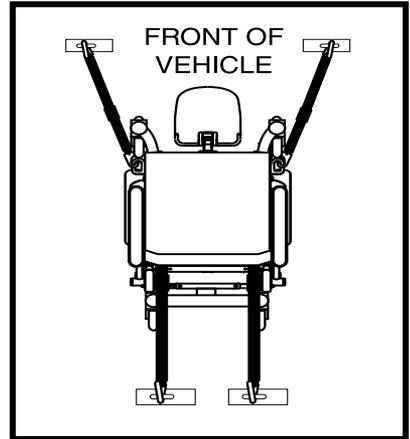

Figure 1. Securing the Power Chair
- Position the anchor points for the rear tie-down straps directly behind the rear securement points on the power chair. The front tie-down straps should anchor to floor points that are spaced wider than the power chair to provide increased lateral stability. See figure 1.